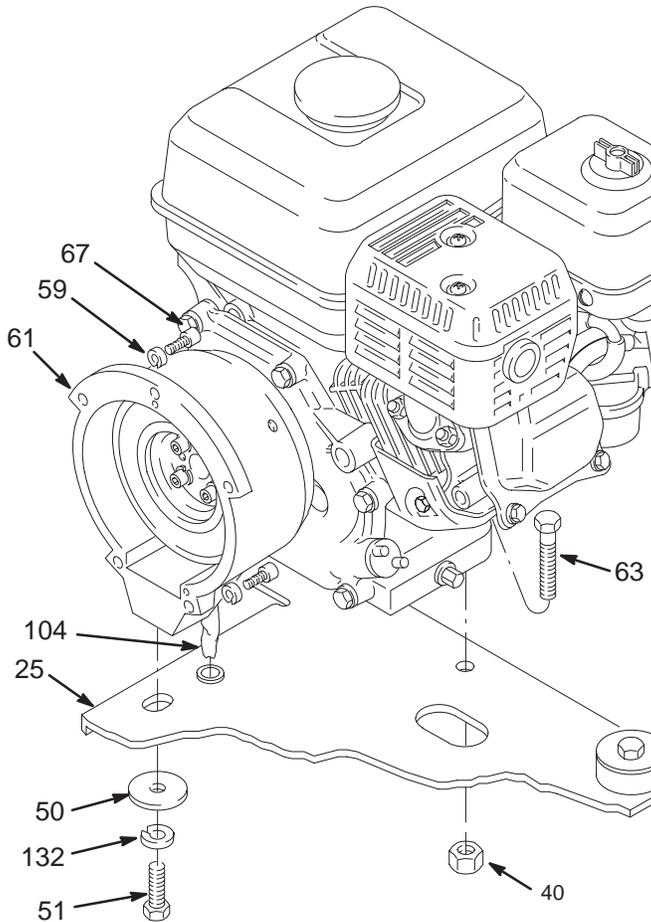

Fig. 35
1. Working under the mounting plate (25) of the cart, remove the screw (51), lockwasher (132) and washer (50) which hold the clutch housing (61) to the cart. See Fig. 35.
2. Still working under the mounting plate, remove the two locknuts (40), and then pull the screws (63) out of the base of the engine. Disconnect the red wire from the engine lead. Disconnect the black and white wires (58) from the field. Pull the wires carefully through the grommets before removing the engine. See Fig. 35 and 36.